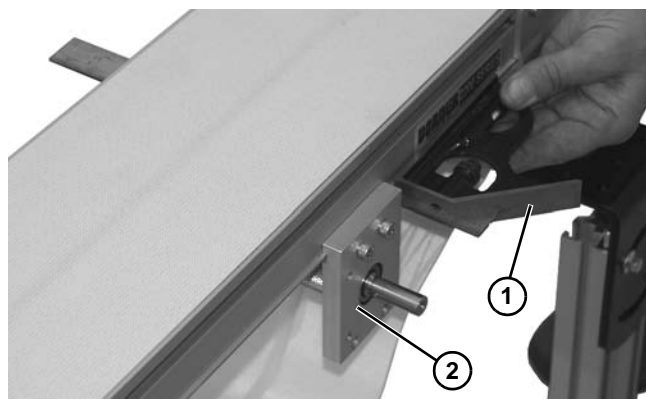

Figure 110
- Be certain to use a square (**Figure 110, item 1**) across mounting blocks (**Figure 110, item 2**), so blocks are aligned to one another, before tightening hardware.